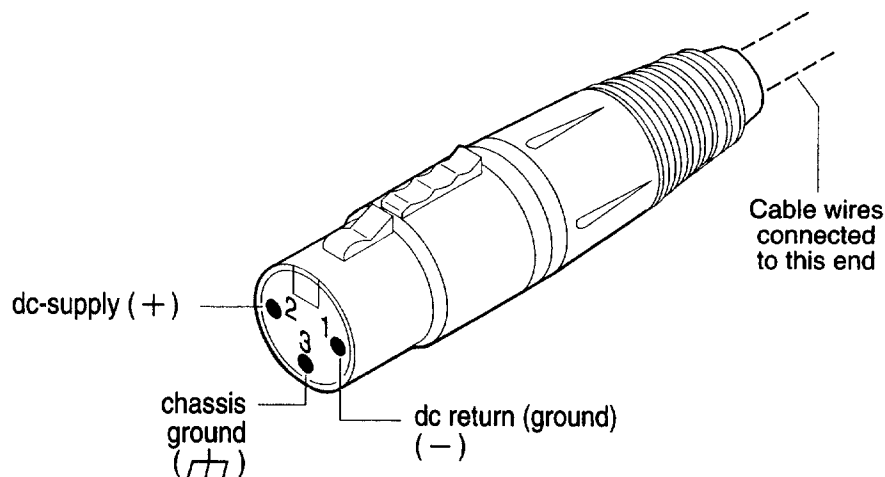

Figure 4-1E. Three-Pin XLR Plug Pinouts (Front View)
- 13** Note that you will have to assemble your own dc power cable using 18 AWG connecting wires and a three-pin HP E9640A XLR (female) connector plug, shown in Figure 4-1E.